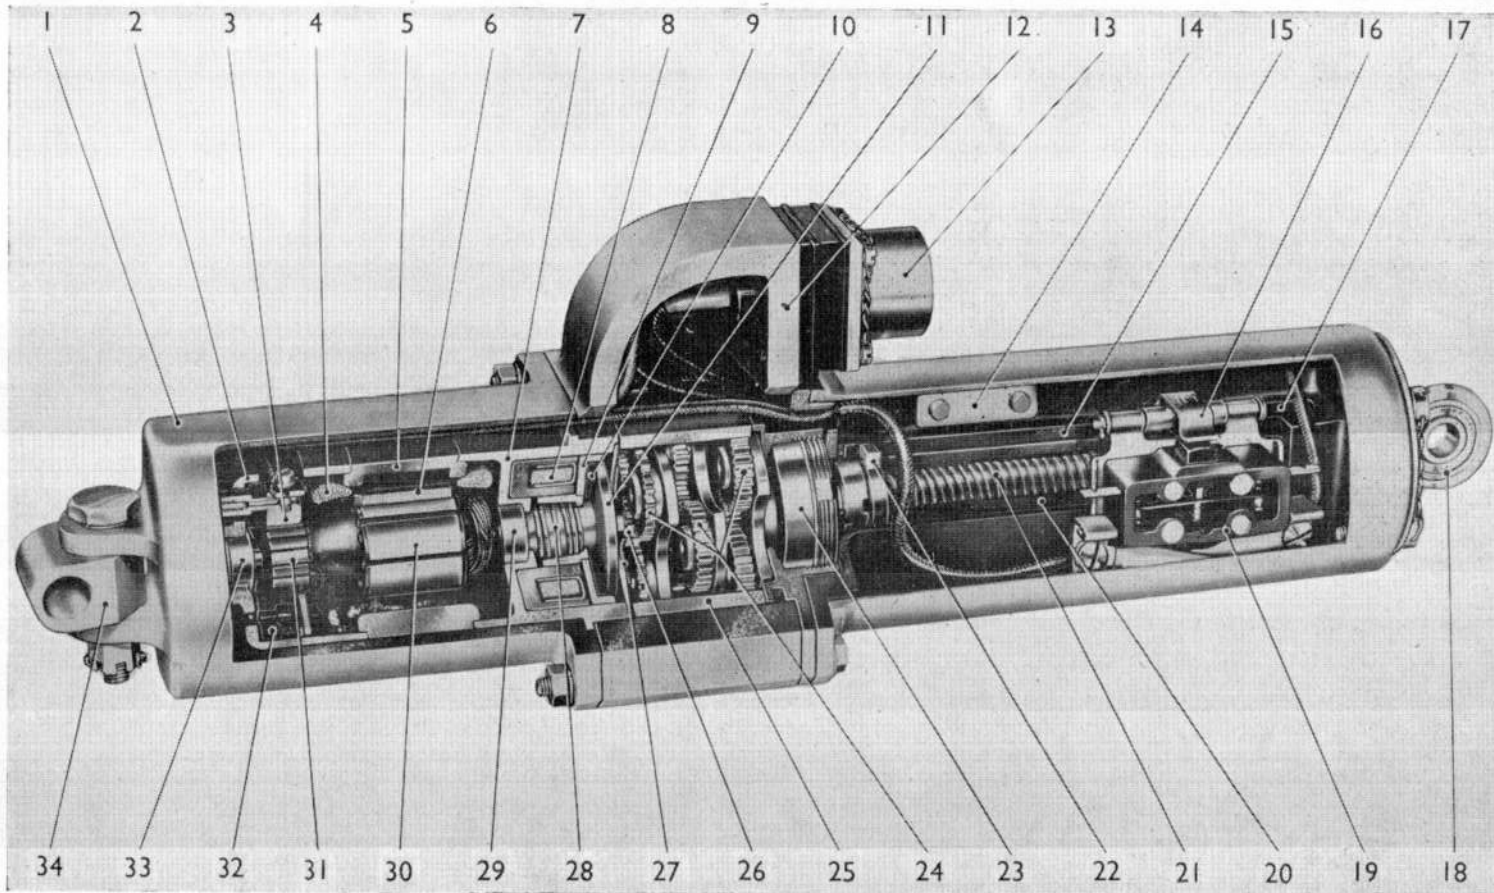

Fig. 2. Sectional view of actuator
**KEY TO FIG. 2**
3. The motor (*fig. 2*) is a reversible split-field series type with an integral electro-magnetic brake. The motor is located by a spigot in the gear housing; the motor pinion is part of an assembly and is pin-driven by the armature shaft. The armature is dynamically balanced to eliminate vibration.
4. The gearbox assembly (*fig. 2*) comprises the main housing (enclosing the toothed annulus) with the three-stage epicyclic gear train. The lead screw is extended into the gearbox, where it is supported in a bearing. One stage of the gearing is supported on a carrier integral with the lead screw extension; the other two gear stage carriers, for support and bearing purposes, are freely located on the lead screw extension, where they are retained by a circlip.